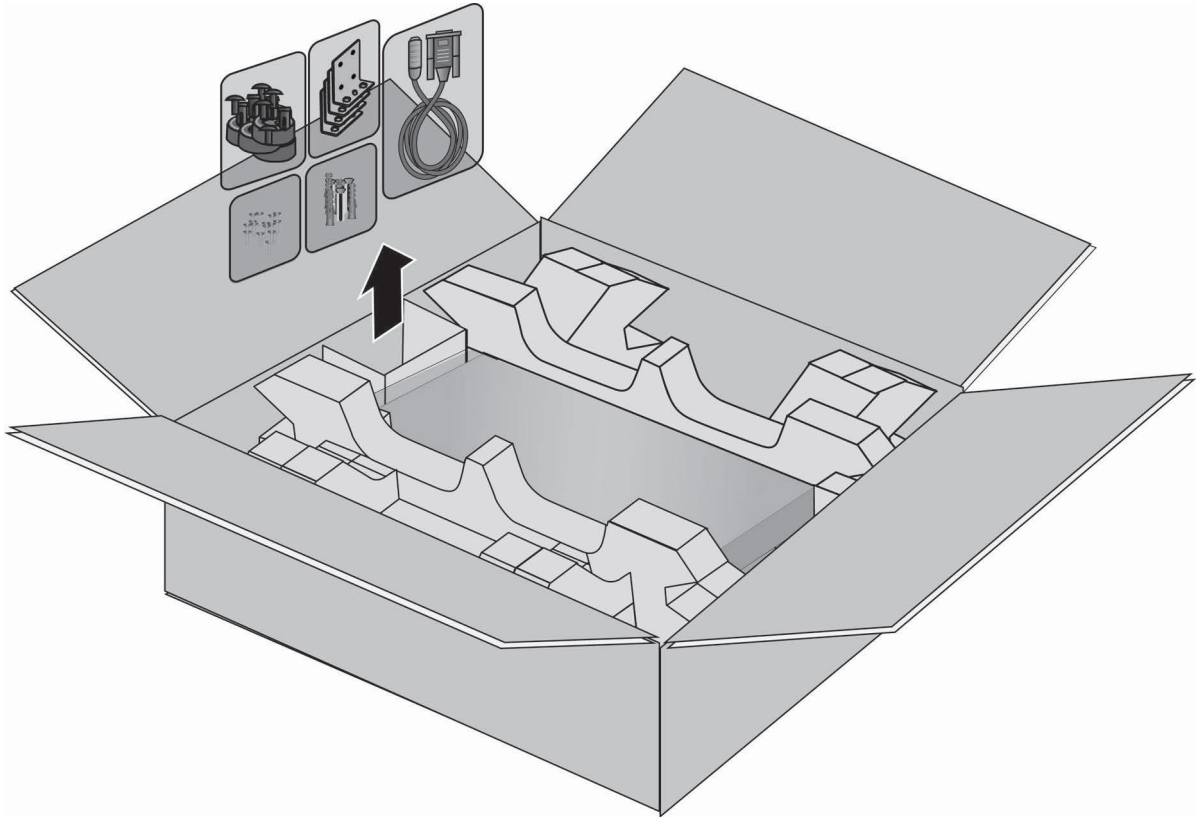

Figure 51. Removing Accessories
1. Remove the accessories and documents from the accessory partition. Refer to Figure 51.